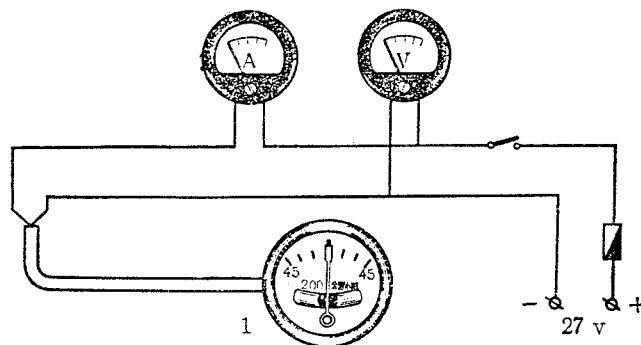

Fig. 3-5 Connection Diagram for Checking Turn-And-Slip Indicator With Power-On
(1) Clean the commutator and check whether there are scars of scratch and burns on the surface of it.
(2) Wipe the inner wall and piston of the damping cylinder of the buffer clean with silk cloth. Then check the piston for movement in the damping cylinder: block the atmosphere hole and choking hole, put the damping cylinder vertical, the piston should fall to the bottom slowly after it is fitted in.
(3) Check the gyro motor for operation with power-on. Connect the tester as shown in Fig. 3-5. The gyro motor should operate normally after the power supply switch is turned on. When the voltage of the power supply is 27v, the operating current should not exceed 0.13a.